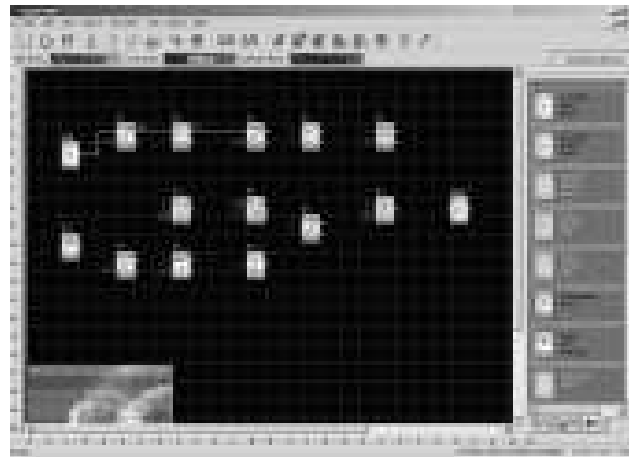

Fig. 4.10 Modify Module Tab
4. Modify the tab of the module: press left button of the mouse above the module, dialog box as Fig. 4.9 appearances, select “Change Block Number”, dialog box as Fig. 4.10 will flip out, it’s time to modify the tab of the module.